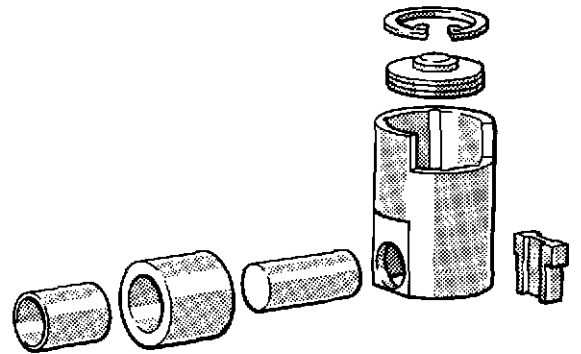

Fig. 14 Roller tappet assembly
- 21 Lift out each tappet assembly (fig. 14), from the cambox and dismantle as follows :